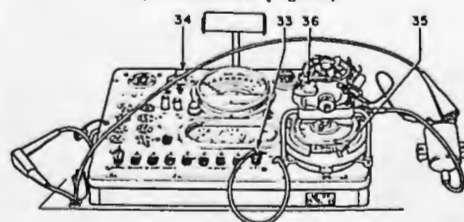

Fig. 6
- 36 Adjust the timing of the distributor so that the timing light through the small round hole in the stroboscope disc is in line with the peep sight (Fig. 6).